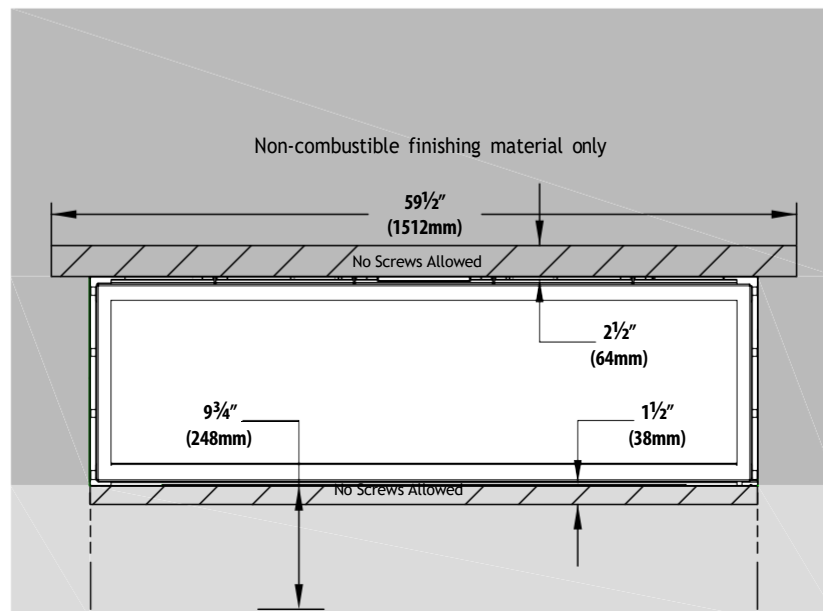

FIGURE 3.2 CLW-ST Minimum Non-combustible Finishing Dimensions and Screw Pattern Locations
- FIGURE 3.7 shows installation of combustible wall finish up to 1" thick. This combustible material goes over any required non-combustible materials as shown in FIGURE 3.2 on page 15.